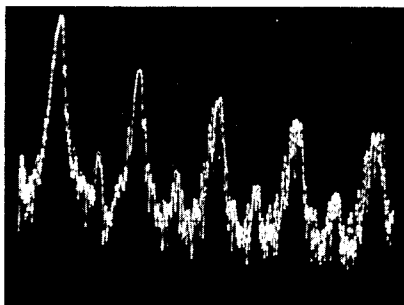

Figure 5-4. VCO Distortion Adjustment
10.2 Adjust A15R39 for min 2nd harmonic (Figure 5-4). Verify level is 35 dB below fundamental or lower.